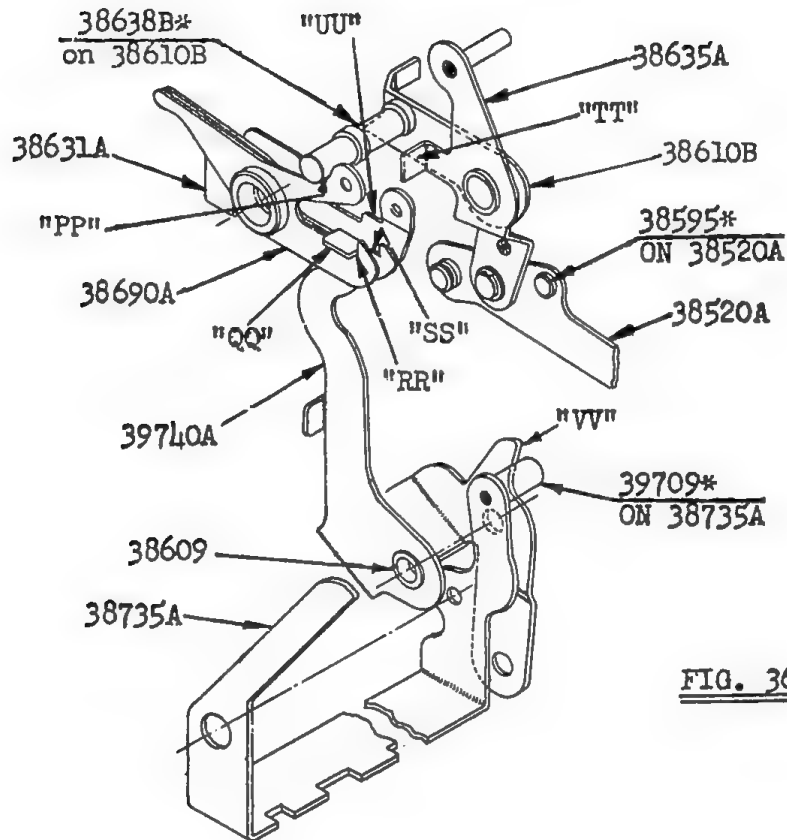

FIG. 36
4. (Fig. 36). It now becomes necessary to initiate a "Blank